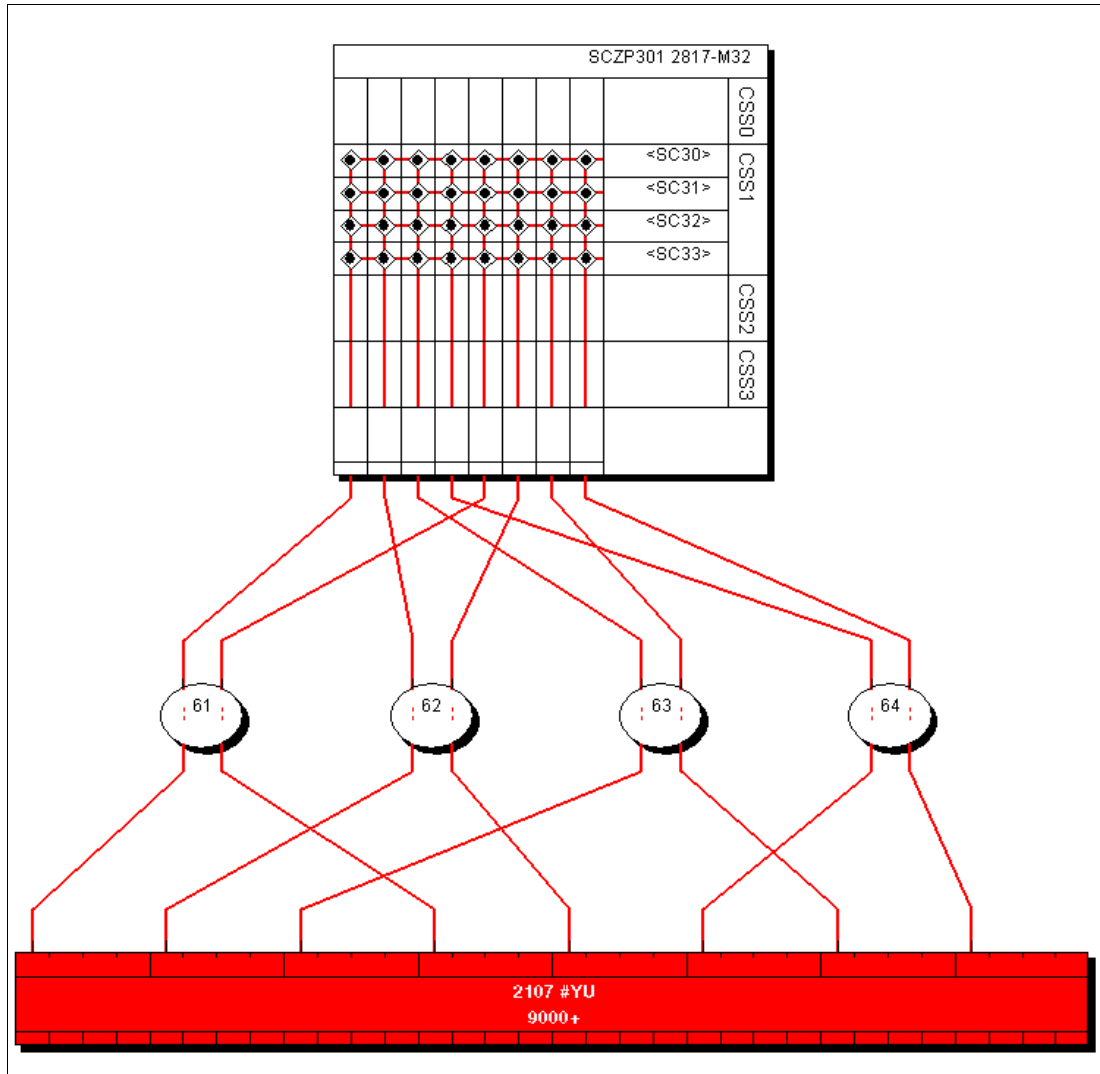

Figure 5-15 HCM DASD Controller view
8. Select **Edit** → **Controller**, and select the DASD controller for our test. Refer to Figure 5-15.